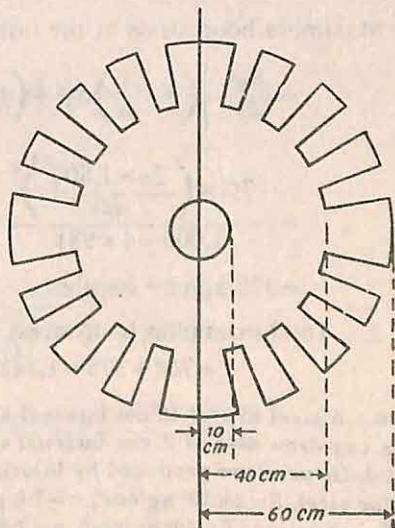

Fig. 26
**19. Determine the stresses due to centrifugal force in a steel rotor with an outer radius of 60 cm and with the radius of the inner hole equal to 10 cm. The outer portion of the rotor is cut by slots 20 cm deep for the windings (Fig. 26). The rotor revolves at 1,800 r.p.m. The weight of the windings in the slots is the same as that of the material removed.**